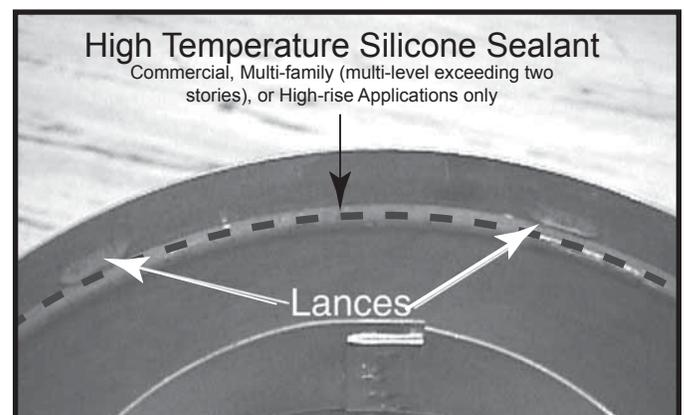

Figure 8.2 Lances
To attach the first pipe section to the collars, slide the male end of the inner vent of the pipe section over the inner collar on the firebox assembly. At the same time, slide the outer flue over the outer collar on the appliance. Push the pipe section into the appliance collar until all the lances (see Figure 8.2) have snapped in place. Tug slightly on the section to confirm it has completely locked into place.
- Apply a bead of silicone sealant inside the female outer pipe joint prior to joining sections. See Figure 8.2